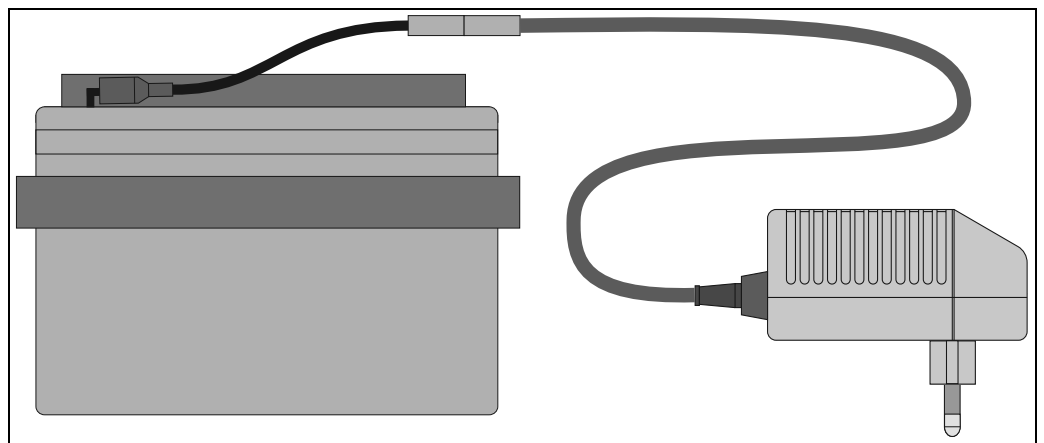

Fig. 6: Battery charger with battery
1. Connect the charging plug of the battery charger to the battery (→ Fig. 6)